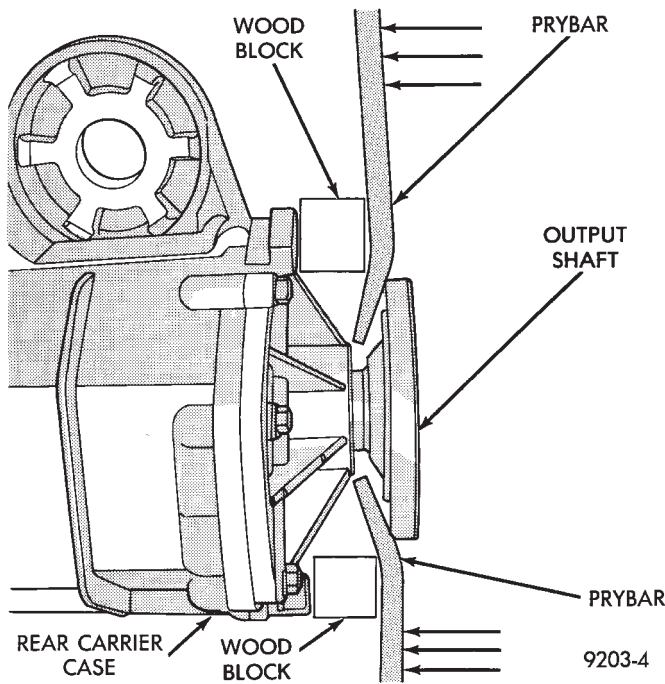

Fig. 1 Output Flange Removal
- (1) Remove left half shaft.
- (2) Using two pry bars, pop out output shaft (Fig. 1).